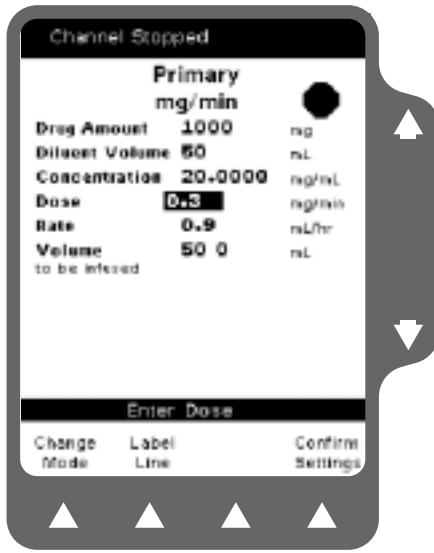

Figure 5-12 Enter the Dose
- Enter the desired dose using the numeric keypad (Figure 5-12).
The **Confirm Settings** soft key is displayed when the calculated value is in range (Figure 5-12).